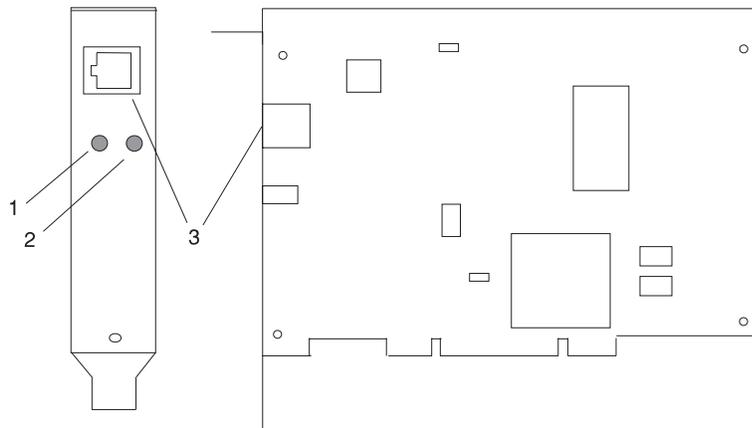

Figure 1-1. Token-Ring PCI Adapter Type 8-T
- Type 8-T adapter (Figure 1-1) supports UTP with on-board filters and STP media with a single RJ-45 connector.